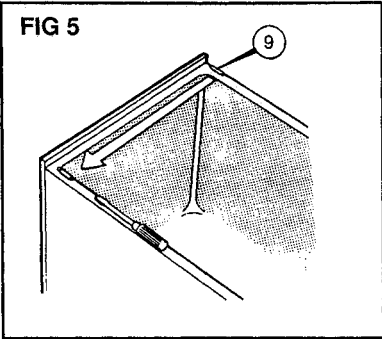

FIG 6
**5.** Pull out the lower hinge pin (8) which may have come away with the hinge blade or remained in the door. Push the pin (rounded end) into the bush at the bottom of the door on the side opposite to its original position.
**7.** It is important that the spacer (6) is retained with screw (4) in the channel between the base of the appliance and the foot/hinge when screwing the assembly into its new position.
**9.** Replace the level adjuster (1) in the small foot.
**11.** If your appliance has a side fix handle, see Fig 6.